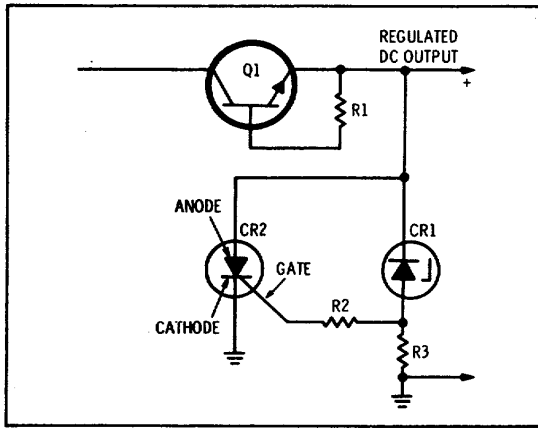

Figure 8-10. Silicon Controlled Rectifier used as a Crowbar.
**8-39. Silicon Controlled Rectifier.** An SCR is the semiconductor equivalent of a gas thyatron. A voltage applied to a control element switches the controlled rectifier to a conducting state when a positive voltage is simultaneously applied to the anode. The controlled rectifier continues conducting until the anode voltage is reduced to zero. Once triggered, the control element has no control of the rectifier until it is turned off by removal of the voltage at the anode. Figure 8-10 illustrates the function of an SCR when used as a "crowbar" in a voltage regulation circuit.
**8-40.** If, when a series regulator transistor fails, it becomes a short circuit, rather than an open circuit, the output voltage can rise to the full value of the rectifier output. Under these conditions the regulator circuits are no longer operative, and the load current is limited mainly by the load resistance. In Figure 8-10 the circuit